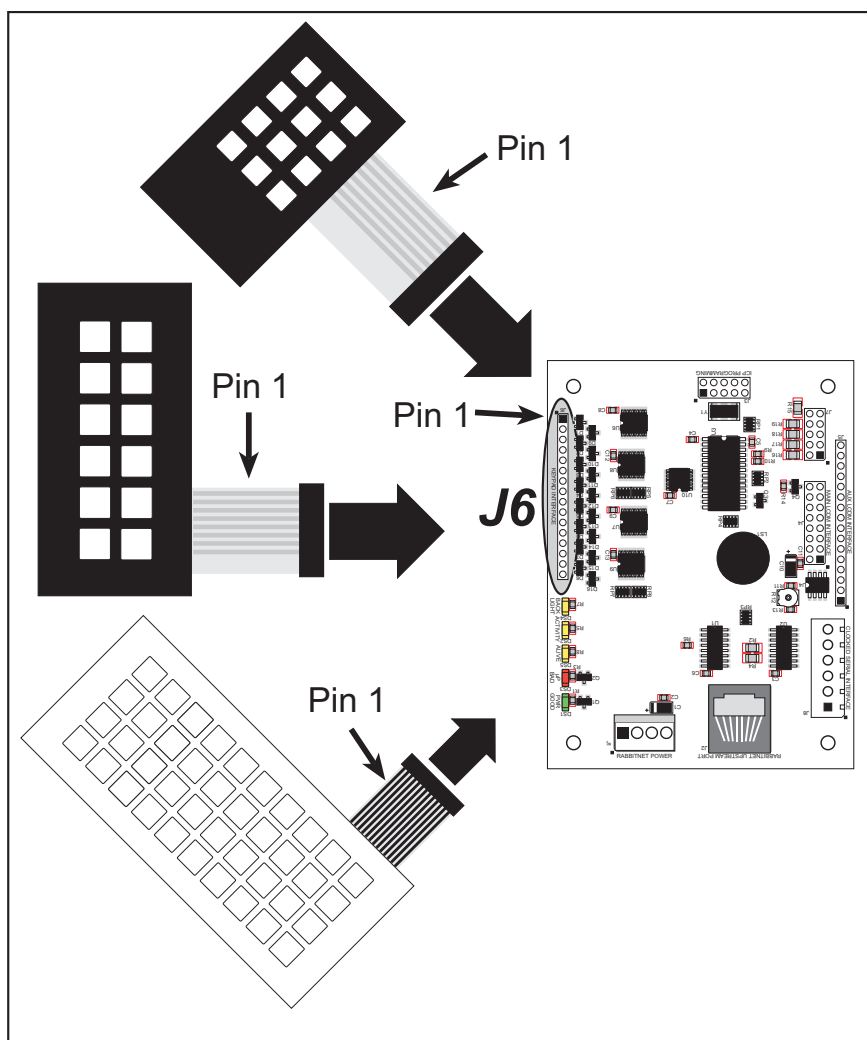

Figure C-1. Connecting Keypads to Keypad/Display Interface Header J6
Connect pin 1 of the keypad to pin 1 of the Keypad/Display interface header J6 as shown in Figure C-1. Follow the pin 1 locations as shown in the diagram and disregard the blue dot that may be present on one side of the connector.
1. Connect pin 1 of the 2×6 keypad to pin 1 of the Keypad/Display interface header J6 as shown in Figure C-1.